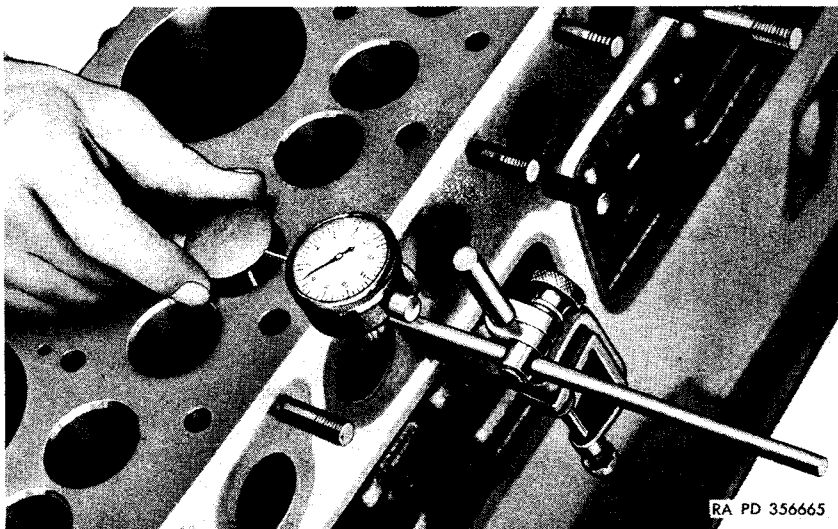

Figure 65. Checking valve stem clearance in guide.
*e. Inspect Valve Stem Guides.* Clean the interior of the valve stem guide with a wire brush and dry cleaning solvent or volatile mineral spirits. Place the valve in the guide with the head five-sixteenths of an inch above the top of the cylinder block. Use dial indicator and adjust the plunger of the indicator against the edge of the valve head (fig. 65). Hold the valve so that it will not turn and move the valve toward and away from the indicator and note the amount of play shown by the indicator. This check should be made by moving the valve crosswise of the surface of the block. The clearance between the valve stem and the guide will be approximately one-half the dial indicator reading for the intake valves and 0.44 of the reading for the exhaust valves. If the calculated clearance exceeds the repair and rebuild standards (par. 68), replace the guides.